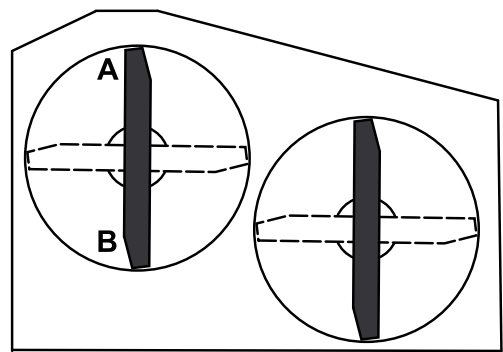
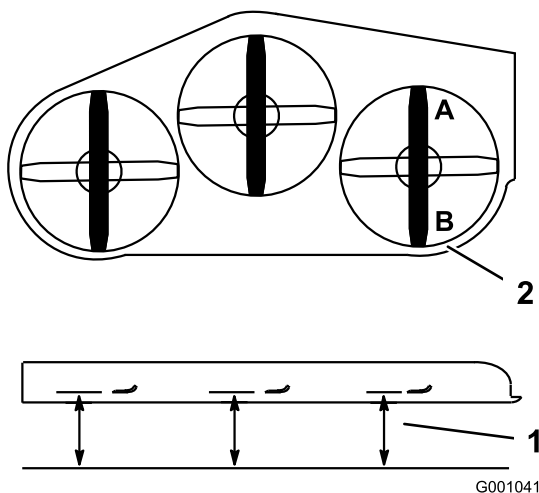

Figure 66
Figure 65
2. Position one blade front-to-rear. Measure at **A** and **B** locations from a level surface to the cutting edge of the blade tips (Figure 65 or Figure 66). For 36 inch mower decks use Figure 66.
4. Position the blades front-to-rear. Measure at C and D locations (Figure 65) from a level surface to the cutting edge of the blades.